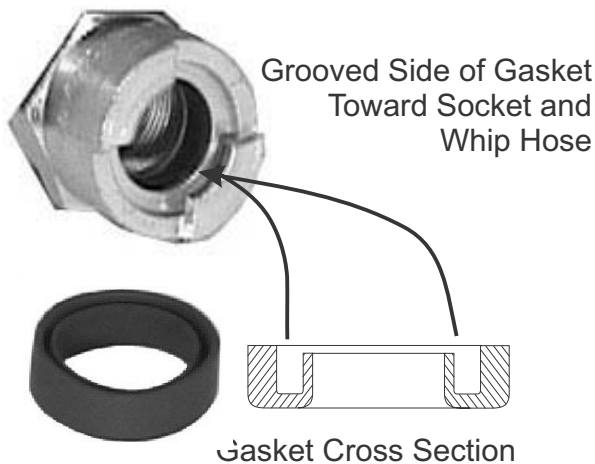

Figure 11-4. Install Q.D. Gasket
2. If the old Q.D. Gasket (23) was removed, insert a new one in the Q.D. Socket (22).
- a. With the grooved face of the Gasket (15) toward the Q.D. Socket (14) and Whip Hose (13), insert the new Gasket (15) into the Socket (14). Refer to Figure 11-4.
- b. Check that the gasket seats properly as shown in Figure 11-4.